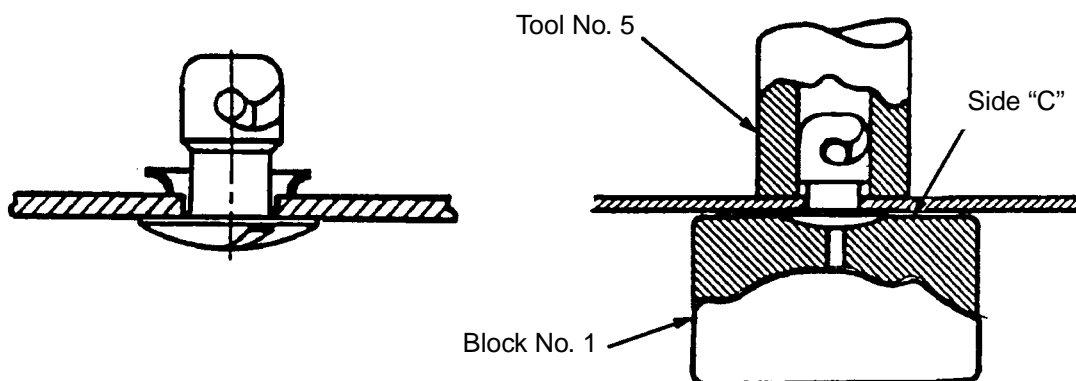

Figure 7 - Installation of Oval Head Studs
5.3.2 Install oval head studs as follows (see Figure 7):